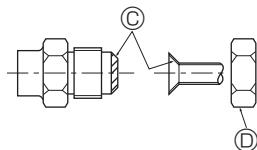

Fig. 4-5
4.3. Connecting pipes (Fig. 4-4, Fig. 4-5)
[Fig. 4-5]
④ (Fig. 4-5)